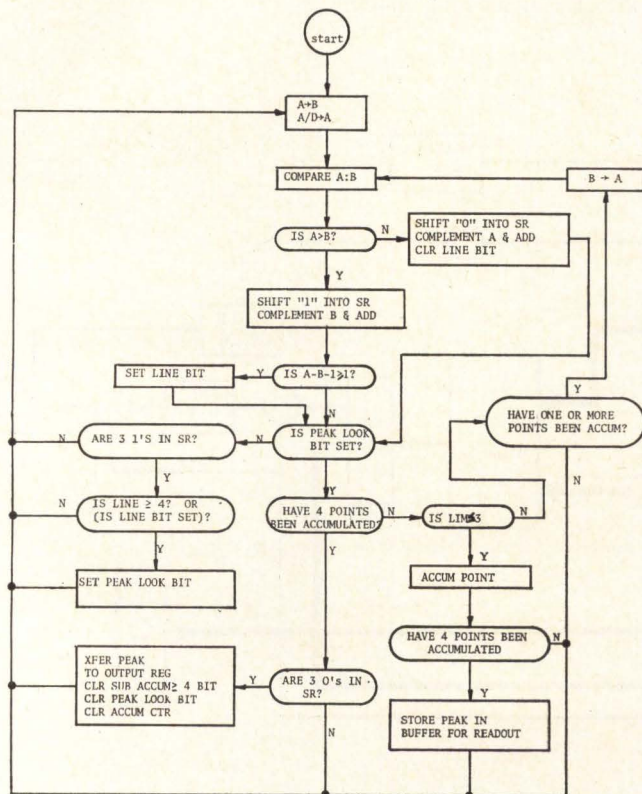

Fig. 2 — Flow diagram of "peaks" circuitry.
The flow diagram of Fig. 2 incorporates the criteria for peaks and provides the basis for the control design. The overall control sequence may be divided into four phases or modes of operation. These are (1) Search Mode; (2) Peak Look Mode; (3) Accumulate Mode;